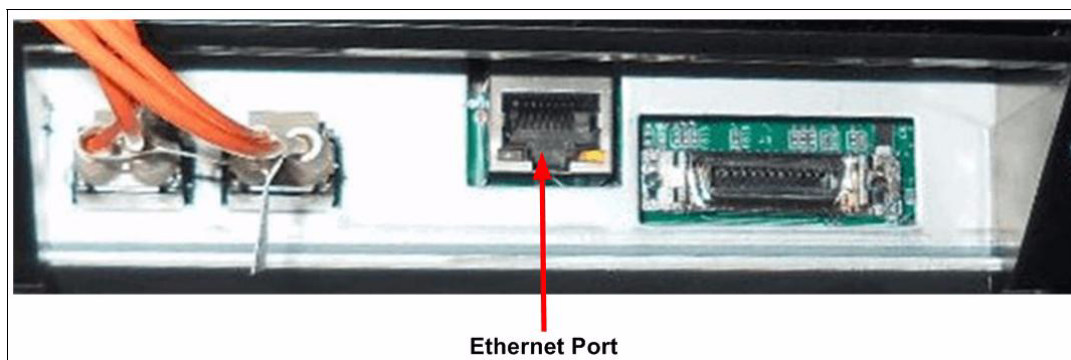

Figure 3-17 TS1150 Ethernet port
The Ethernet port is used in the TS1155 and TS1150 Rack mount configuration, when in a TS3500 tape library configuration the TS3500 tape library management interface (MI) can be used to manage the TS1155 and TS1150 instead. Figure 3-17 on page 163 shows the location of the Ethernet port.
The 3592-E08, 55E and 55F canisters no longer have an RS-232 serial port. An Ethernet service port was added to the drive, which is for service, and use by the user. It provides the capability for users to access advanced drive status pages, and for service personnel to access a drive virtual operator panel and perform firmware uploads and download drive memory dumps. It is a single, standard RJ45 connector at the rear of the canister, as shown in Figure 3-17.